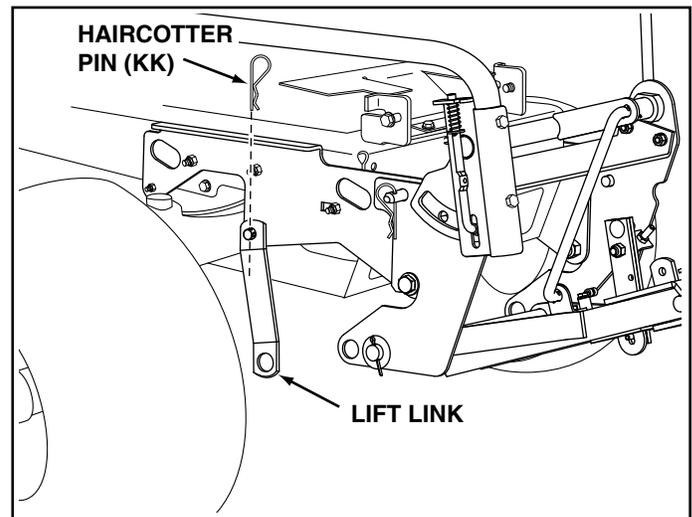

FIGURE 30
STEP 3: (SEE FIGURE 30)
- Attach the small holes of the lift links to the welded pins on the frame bracket and secure with hair cotter pins (KK). The lift link should angle to the inside.